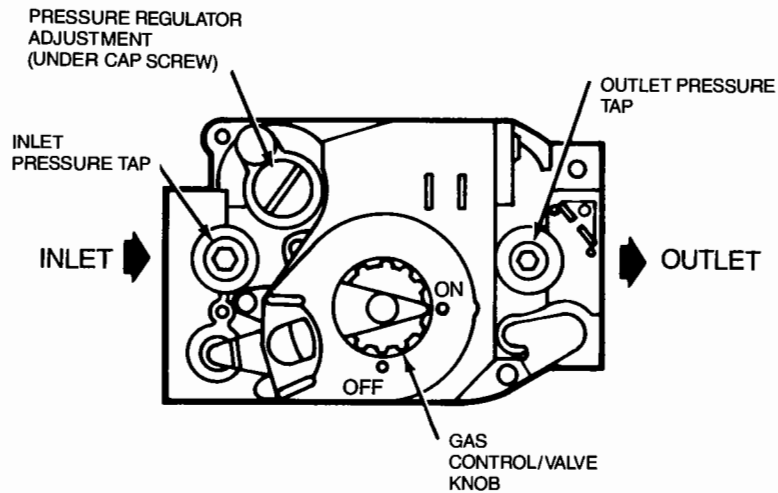
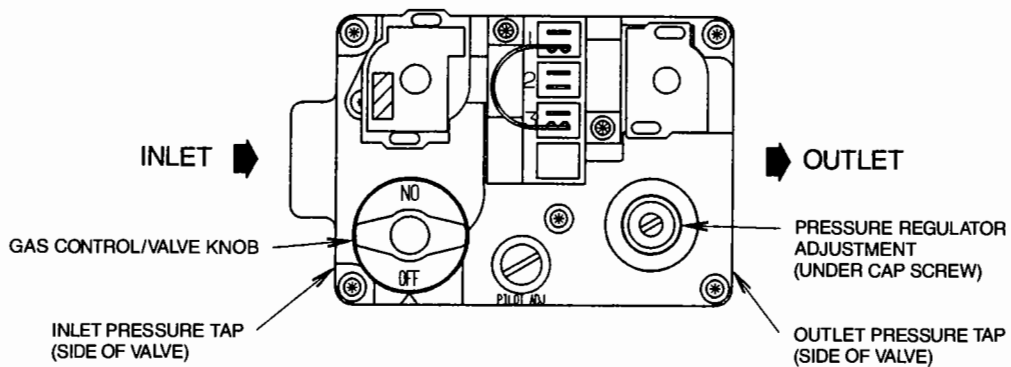
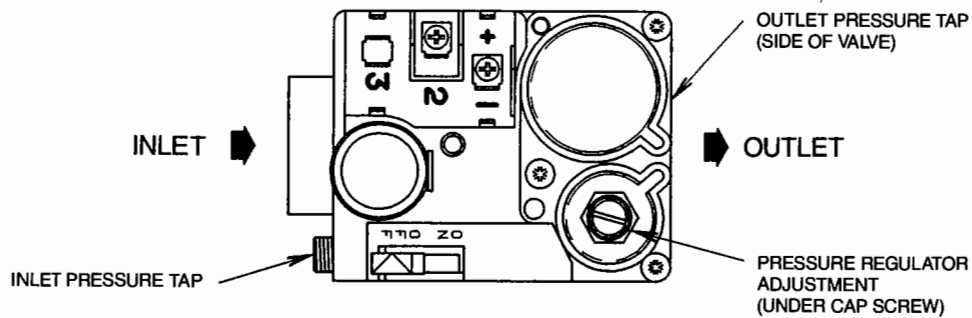

**FIG. 14A — HONEYWELL
**FIG. 14B — WHITE RODGERS
**FIG. 14C — ROBERTSHAW (GRAYSON)
6. Turn the gas control knob clockwise to the "Off" position for either the White Rodgers 36-E gas valve (Fig. 14B) or the Honeywell VR-8205 gas valve (Fig. 14A), for the Robertshaw 7200 gas valve push in and slide the lever to the "Off" position (Fig. 14C). Do not force.
7. Wait five (5) minutes to clear out any gas. Then smell for gas, including near the floor.
8. If you smell gas following the 5 minute waiting period in Step 7, follow the instructions on the cover of this manual. If you do not smell gas, then turn the gas control knob counterclockwise to the "On" position for either the White Rodgers 36-E gas valve (Fig. 14B) or the Honeywell VR-8205 gas valve (Fig. 14A), for the Robertshaw 7200 gas valve push in and slide the lever to the "On" position (Fig. 14C). Do not force.
A tapped opening is provided in the gas valve to facilitate measurement of the manifold pressure. See the "Outlet Pressure Tap" in Fig. 14A, 14B and 14C. A "U Tube" manometer having a scale range from 0 to 12 inches of water should be used for this measurement. The manifold pressure must be measured with the burners operating.
3. Turn the gas control knob clockwise to the "Off" position for either the White Rodgers 36-E gas valve (Fig. 14B) or the Honeywell VR-8205 gas valve (Fig. 14A). For the Robertshaw 7200 gas valve, push in and slide the lever to the "Off" position (Figure 14C). Do not force.